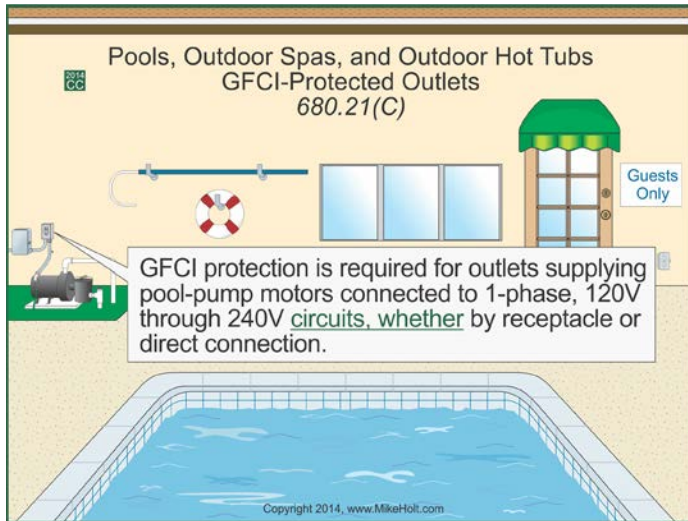

Figure 680-21
(C) GFCI Protection. GFCI protection is required for outlets supplying pool pump motors connected to single-phase, 120V through 240V branch circuits, whether by receptacle or by direct connection. Figure 680-21